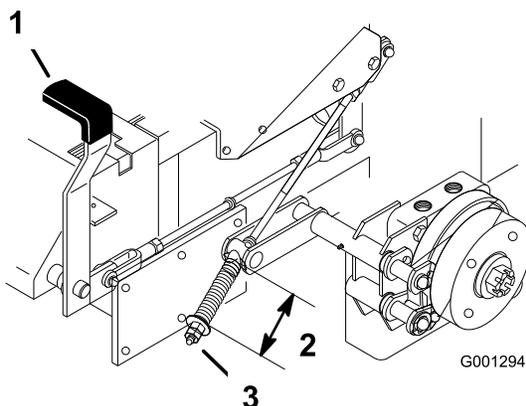

Figure 82
3. Measure the length of the spring (Figure 82).
4. If adjustment is necessary, disengage the parking brake, loosen the jam nut below the spring and adjust the nut directly below the spring (Figure 82).